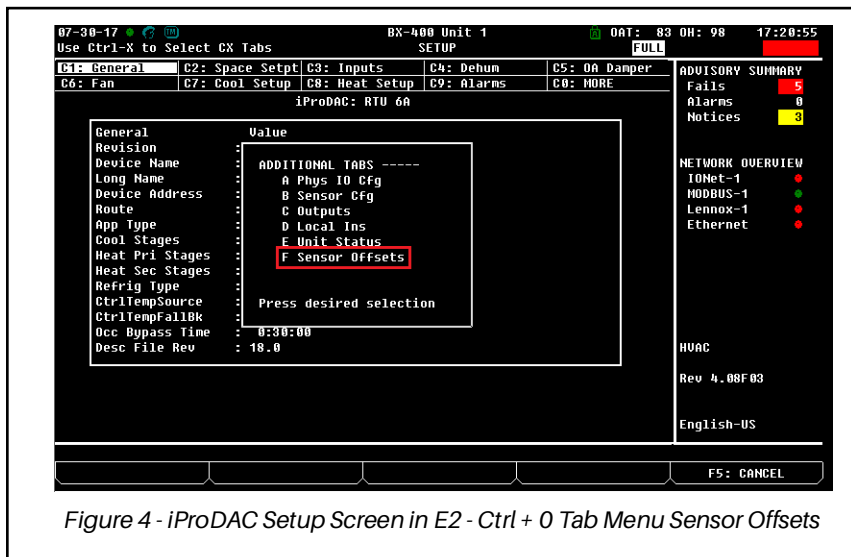

Figure 4 - iProDAC Setup Screen in E2 - Ctrl + 0 Tab Menu Sensor Offsets
3. Press **F5 SETUP** to access the iProDAC Setup screen (Figure 4).